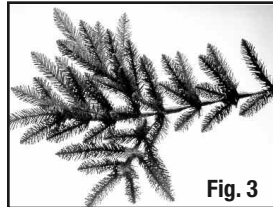

Fig. 3
3. After all bottom bracket branches are properly shaped they can be attached to the center pole brackets. Gently push each branch down into the bracket slots until they lock into place (Figure 3).
2. Insert the top tree section into the green plastic opening of the lower tree assembly. This is the "pole cap" which keeps tree top section securely in place (Figure 3).
**HINGED TREES:** Working your way up from the bottom, gently lower all branches from their upright setting (Figure 3). **See Important Note below.** Each branch must be shaped to a natural position by spreading out the left and right tips away from the center tip (See Shaping Instructions, page 4). Continue to lower branches on upper section(s) in the same manner making sure not to place undue pressure on the hinge brackets.
5. **SHAPING:** For best results, shape your tree with the lights on. Branches should fall into place during assembly. If any branches remain upright, gently lower them into proper position (Figure 3). See **IMPORTANT NOTE** below.
3. Each individual tip should then be spread out separately. Tips should then be bent slightly upward to add a more natural looking appearance. Figure 3 shows a typical tree branch after shaping.
2. Fuses are located in light string plug. Slide the fuse access cover away from cord side (in direction of arrow, Figure 3) exposing fuses.